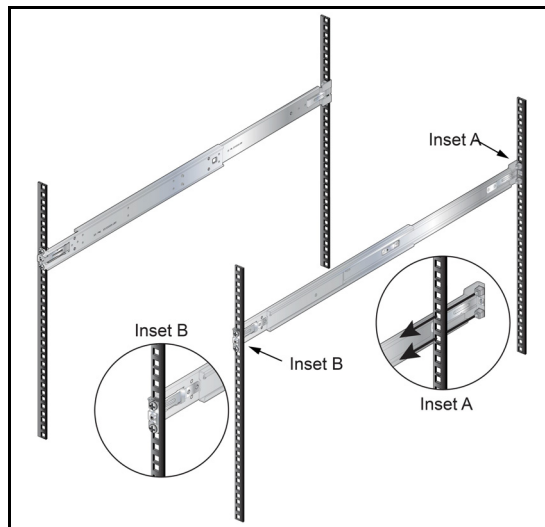

Figure 3-12: Attaching the Rails
Step 1 Attach rail to the right rear rack post by inserting rod-end rack plugs into post slots (Figure 3-12-Right, Inset A). The slide assembly must be inside the right posts, relative to the left rack posts.
Step 2 Attach the slide end of the rail to the front post by extending the rail end past the post, then contracting the rail while guiding the rack plugs into the post (Figure 3-12, Inset B).